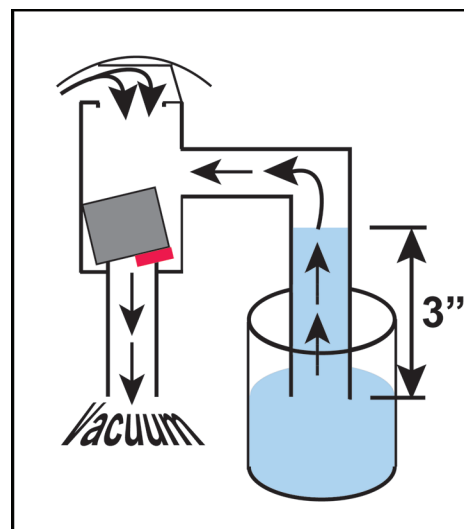

Figure 2
In the Foundation's *Manual of Cross-Connection Control, Ninth Edition*, Section 10.2.5.3.5 the AVB must undergo a test which entails fouling the check seat with a specifically sized wire, then applying various vacuum conditions to the inlet of the unit. On the outlet of the AVB is a clear tube, which extends down into a vessel of water. See Figure 2. When the various vacuum levels are applied, the water in the clear tube is permitted to rise no more than a maximum of three (3) inches. Should it rise more than three inches, this is cause for rejection. The establishment of the three-inch level was experimentally derived many years ago as a practical level of performance. To provide a safety margin for actual field use, this level was then doubled